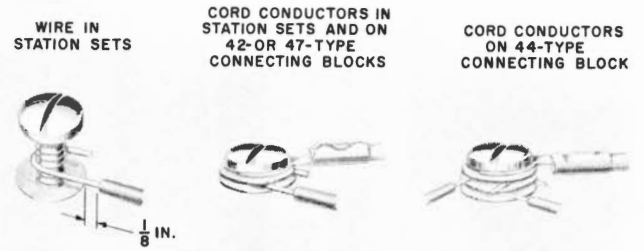

Fig. 1 — Terminating Station Wire and Cord Conductors
4.01 Station wire and cord conductors should be terminated as shown in Fig. 1. To avoid interference, cord tip is turned down when two wires and a cord tip are connected to a terminal.